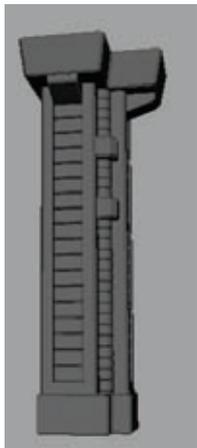

Figure 5.32
12. You can continue to add details as you see fit, but in the end, you should end up with something like Figure 5.32.